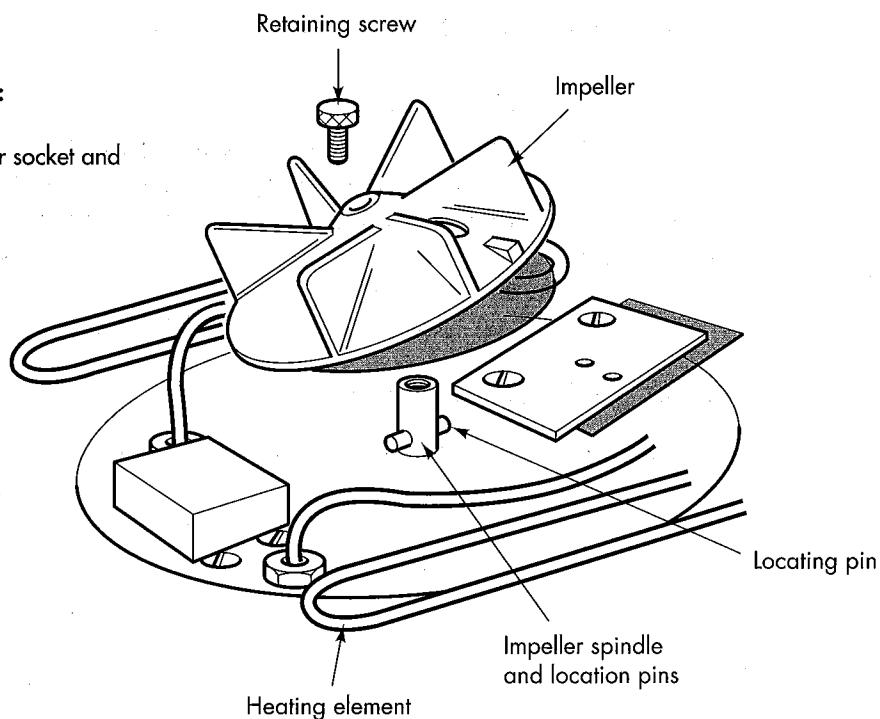

Figure 45: Removing the fan impeller and testing the fan fail alarm
- dismantle machine down to heater and fan if possible (Figure 45)
See Figure 45.